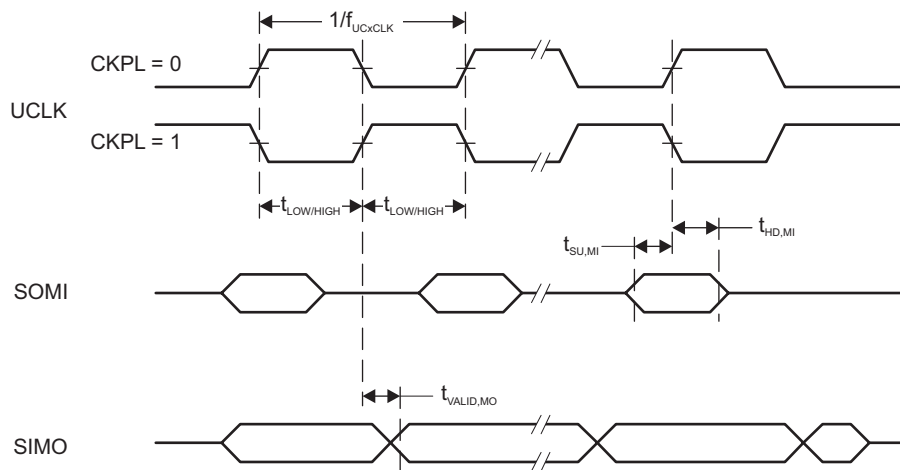
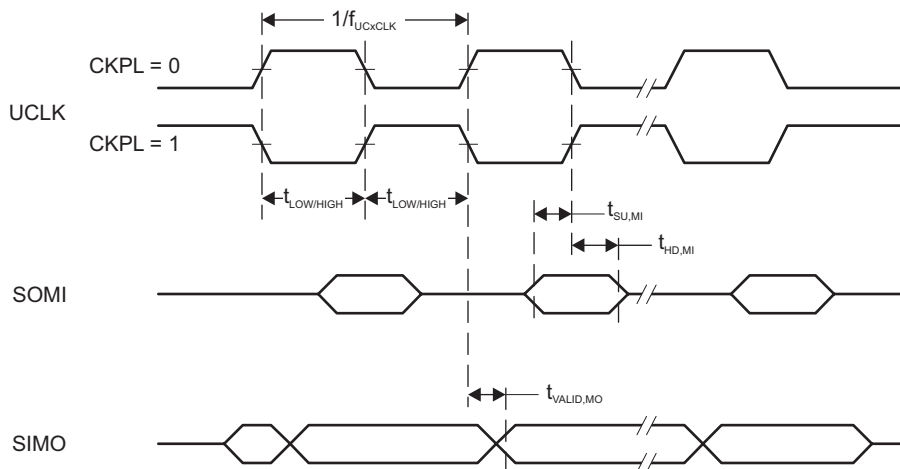

Figure 5-23. SPI Master Mode, CKPH = 0
Figure 5-24. SPI Master Mode, CKPH = 1
over recommended ranges of supply voltage and operating free-air temperature (unless otherwise noted)⁽¹⁾ (see Figure 5-23 and Figure 5-24)
(2) Specifies the time to drive the next valid data to the SIMO output after the output changing UCLK clock edge. See the timing diagrams in Figure 5-23 and Figure 5-24.
(3) Specifies how long data on the SIMO output is valid after the output changing UCLK clock edge. Negative values indicate that the data on the SIMO output can become invalid before the output changing clock edge observed on UCLK. See the timing diagrams in Figure 5-23 and Figure 5-24.